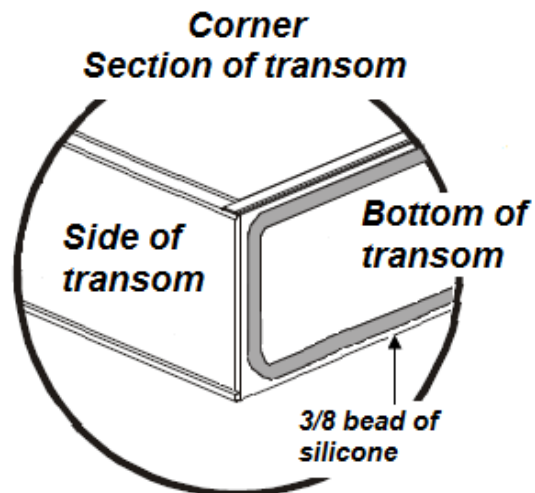

Figure 2
- Apply a bead of silicone on the Bottom of the jamb of the transom, between the door and transom. Figure 2